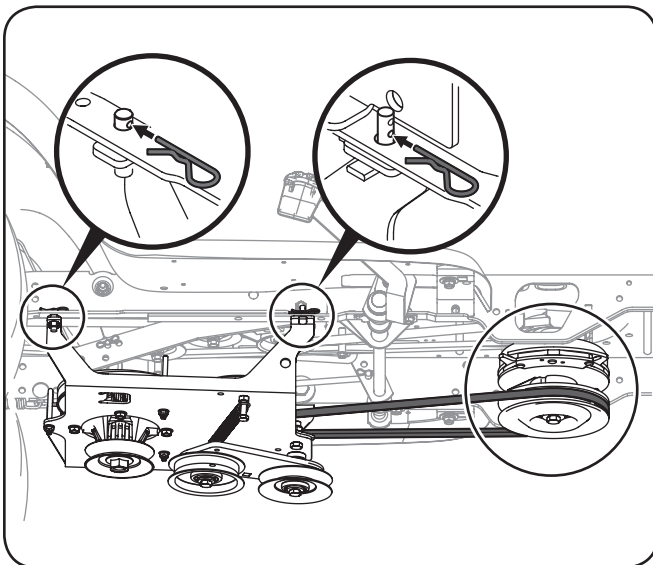

Figure 3-12
10. Insert the weld pins found on the top of the undercarriage assembly into the aligning holes found along the tractor's frame. Secure the undercarriage assembly to the frame with the four hairpin clips removed earlier. See Figure 3-12.
11. Route the upper drive belt around the electric PTO clutch (or engine pulley on manual PTO models). See Figure 3-12.